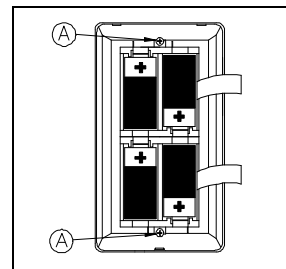

Fig. 3. Battery polarity.
3. Remove the battery holder by removing the two screws "A" shown in Fig. 3.
6. Mount unit using screws suitable for the surface material. Note: (1) Use the caulking material supplied to seal any unused mounting holes. (2) If mounting higher than 10', it may be necessary to tilt the unit downward slightly for proper microwave coverage, and to reset the Height Scale for proper PIR coverage.
2. Install the four C batteries (supplied) over the pull ribbons, observing polarity shown in Fig. 3. (LED will start to flash. See Power-Up Procedure.)